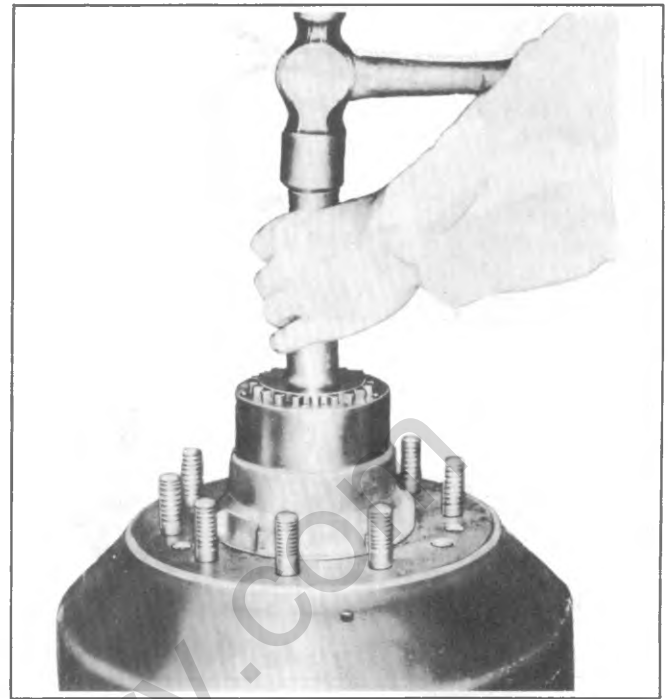

Fig. 4B-38--Removing Hub Outer Bearing
4. Withdraw cup installer, then install retainer ring, using J-22380 as shown in figure 4B-37. Press the cup into contact with the retainer ring as shown in figure 4B-38.
5. To install **inner** bearing, use J-8093 with Handle J-8092 to drive cup into hub bore, as shown in figure 4B-39.